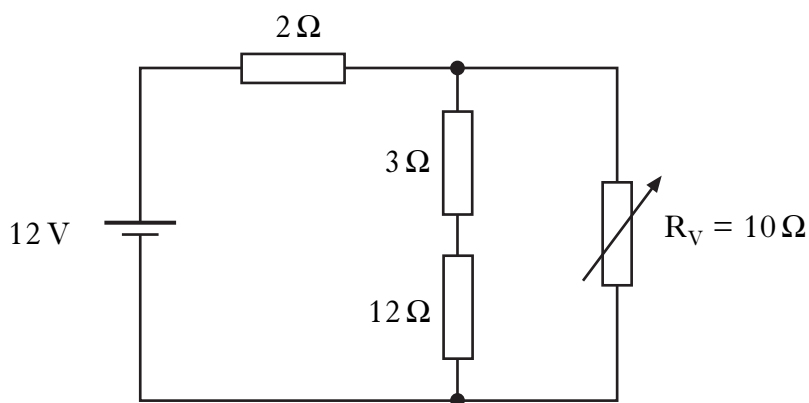

Figure Q11(c)
11. (a) For the diagram shown in Figure Q11(a) below, determine:
- (b) For the circuits shown in Figure Q11(b) below, determine:
- (c) For the circuit shown in Figure Q11(c) below, the variable resistor can be varied between $5\ \Omega$ and $15\ \Omega$. It is initially set at $10\ \Omega$.